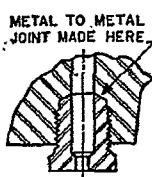

Fig. 45-1. Important! Valve seat seal is made at point of contact indicated, not by threads. Be sure to read paragraph above.
**Valve Seat Installation.** When installing valve seats in Armstrong traps, do NOT use any pipe dope or lubricant of any kind on the seat threads. The joint is made, not by the threads, but rather by the contact between the ground end of the valve seat and the beveled seating area at the bottom of the tapped hole. See Fig. 45-1. Make sure that this seating area is perfectly clean.